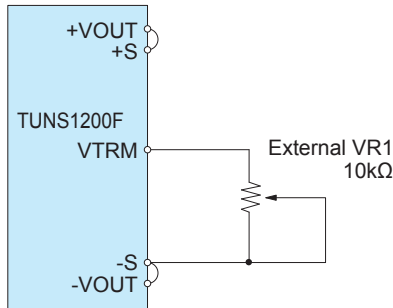

Fig.3.7 Connecting External Devices (TUNS1200F)
(1) Output voltage adjustment by potentiometer
■By connecting the external potentiometer (VR1) as shown in Fig.3.7., output voltage becomes adjustable.